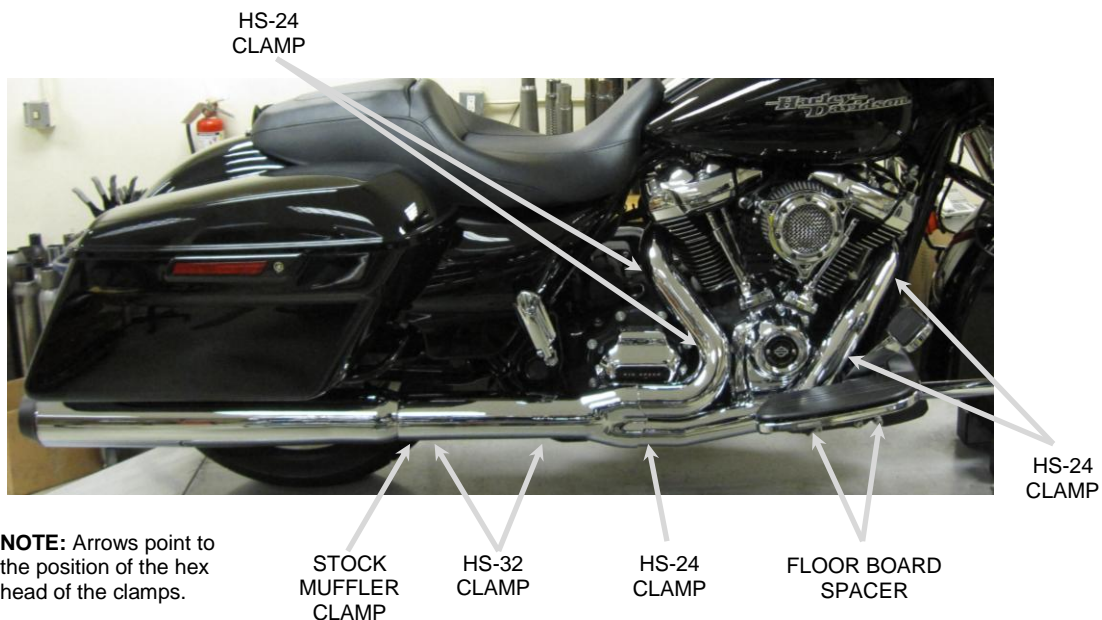

FIGURE 7
16. Remove the heatshields and hose clamps from packaging. Unscrew the hose clamps and feed the tail end of the clamps through the clips on the inside of the heatshield so the screws are accessible with a screwdriver once the heatshield is installed. The large HS-32 hose clamps go in the clips on the collector heatshield. See **FIGURE 7** for proper positioning of the clamps on the heatshields. (NOTE: The arrows point to the positioning of the hex head of the clamps. The hex head of the clamps should be accessible for tightening but not visible when the heatshields are mounted to the pipes.)
17. Install the right rear heatshield over the rear headpipe. (Hint: Spread the hose clamps apart slightly to make it easier to slide them over the headpipes.) Snug the clamps but **DO NOT TIGHTEN** at this time. See **FIGURE 7**.
18. Install the right front heatshield over the right front headpipe. (Hint: Spread the hose clamps apart slightly to make it easier to slide them over the headpipes. When the heatshield is aligned properly snug the clamps but **DO NOT TIGHTEN** at this time. See **FIGURE 7**.
17. Install the collector heatshield over the collector by first sliding the front of the collector heatshield forward over the front and rear headpipe heatshields and then back to align it with the muffler body. The front of the collector heatshield will go over the rear portion of the headpipe heatshields. Adjust the heatshield fore and aft on the collector so there is a small and even gap between the rear of the collector heatshield and the front of the muffler body. Also be sure to rotate the front of the collector heatshield on the collector so that it sits on both the front and rear headpipe heatshields evenly. See **FIGURE 7**. NOTE: The headpipe heatshields may need to be adjusted fore and aft and or rotated on the headpipes to allow the collector heatshield to align properly. When the heatshield is aligned properly snug the clamps but **DO NOT TIGHTEN** at this time.
18. When the heatshields are aligned properly, tighten the clamps on the front and rear heatshields first. Then tighten the collector heatshield clamps last. See **FIGURE 7**.